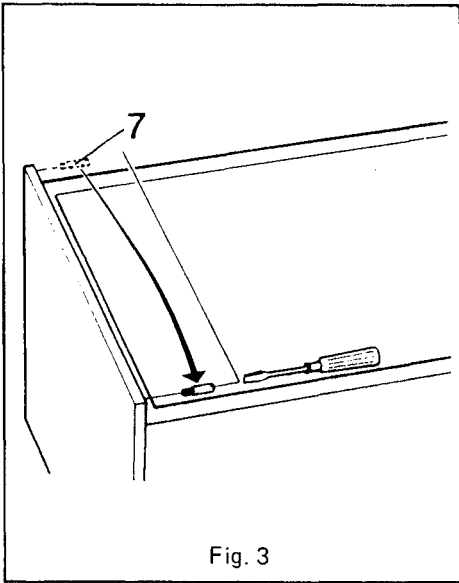

Fig. 3
2. Gently lay the refrigerator on its back and take note of which way round the two front feet are positioned in relation to the cabinet front. Remove both front feet by taking out the cross-headed screw and washer (1) from the centre of the smaller foot, and the similar screw and washer (3) from the rear opening of the larger foot.
3. Remove the metal hinge blade (2) by taking out the screw (4) with its locking washer (5). Remove the lower hinge pin (6) which may come away with the hinge blade or may remain in the hinge bush in the door.
5. Unscrew the upper hinge pin (7), illustrated in fig. 3, using a screwdriver in its slot, and transfer the hinge pin to the threaded hole on the opposite side.